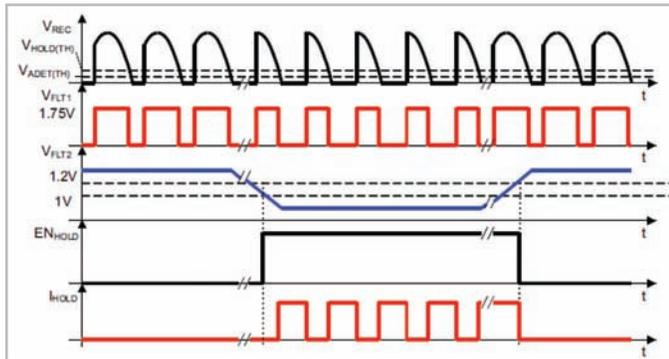

Fig. 5: Angle Detection circuit and Holding Current Circuit Operation
QPASS and limited by resistors RHLD1 and RHLD2, as shown in Fig 4. It should be noted that the additional current drawn has no effect on the rectified input voltage and therefore does not interfere with the input power regulation control scheme. To provide high efficiency, the hold circuit is enabled only when the presence of an external dimmer is detected based on the FLT2 input. The ENHOLD signal is asserted and hold operation is permitted when VFLT2 falls below 1V. The hold operation is halted when VFLT2 rises above 1.2V. During dimming, the hold current is drawn during the interval when rectified input voltage is below the VHOLD(TH), based on the external resistor RAC. The FET turn on is controlled by an internal comparator with a reference of 400mV (higher than angle detect reference), such that hold current is always asserted before angle detect threshold VADET(TH). The hold circuit operation is summarized in Fig 5. The hold trun-on threshold, VHOLD(TH) is given by